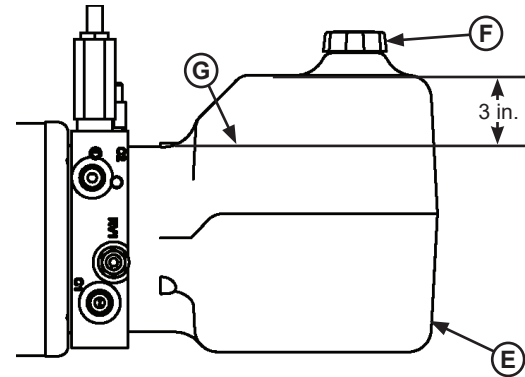

Figure 19
- Check reservoir fluid level (G, see Figure 19):
3. Remove breather cap (F).
4. Measure fluid level. The fluid level should be approximately 3 in. (76.5 mm) from top of reservoir (E) with platform at the below-dock position.